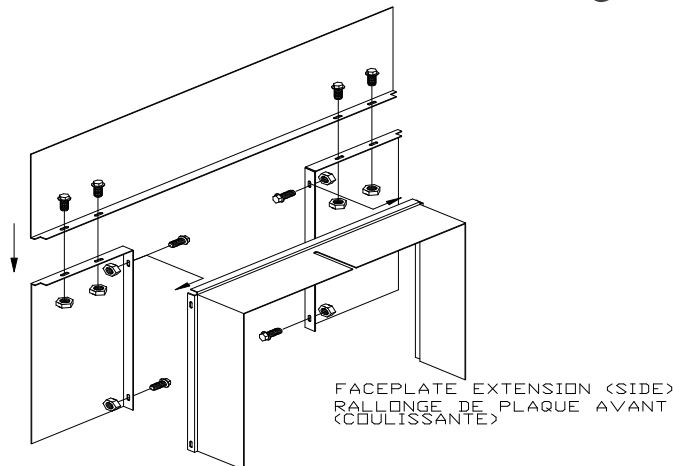

Figure 2.9a
- B. Place the faceplate face down on a flat, nonabrasive surface (see Figure 2.9a) so that the sides are a bit towards the middle.